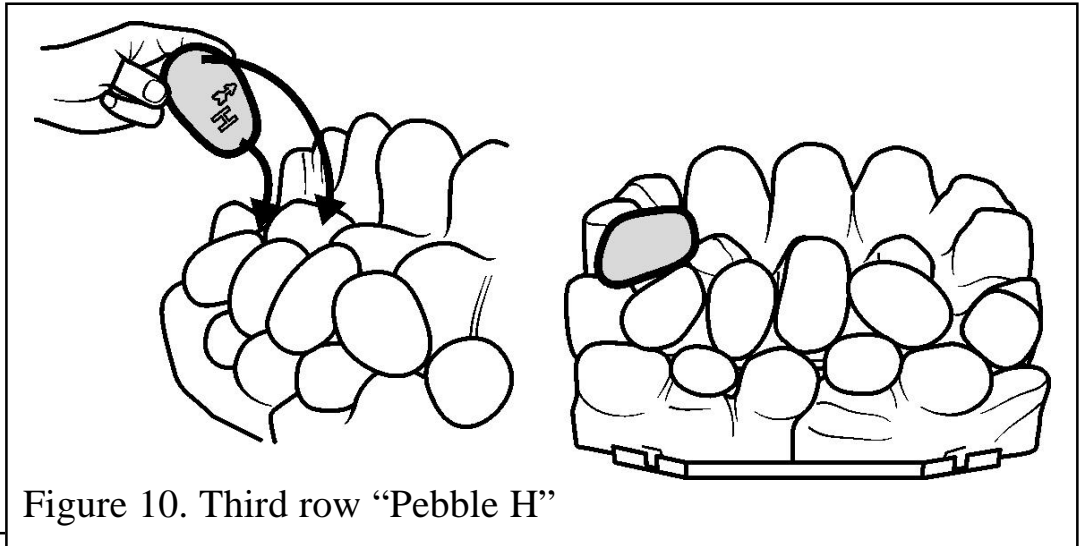

Figure 10. Third row "Pebble H"
12. Hold pebble 'H' upright with the arrow pointing to the top. Locate pebble 'H' as shown in figure 10.